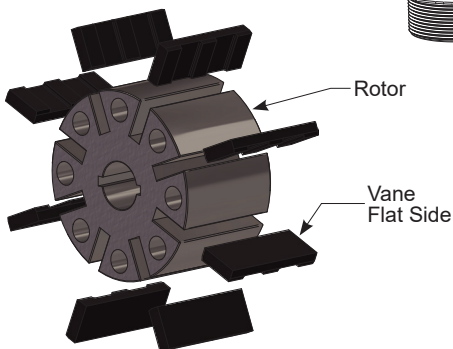

Figure 2a
6. Replace the rotor, shaft key, and vanes, making sure the vanes are oriented with flat side facing forward (as shown in Figure 2a).